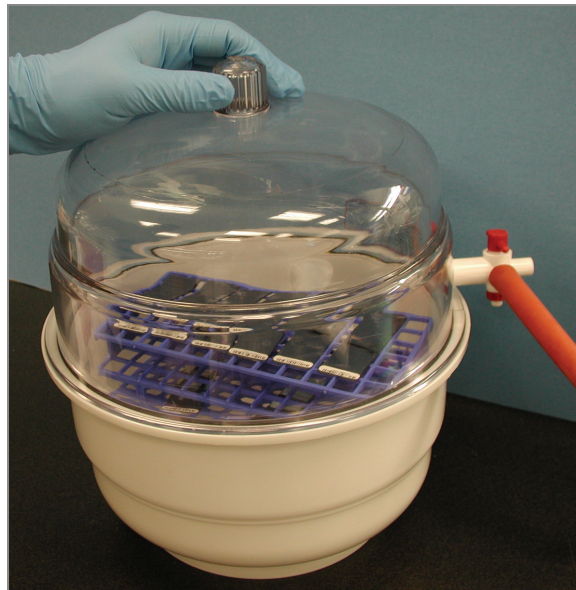

Figure 189 Testing Vacuum Seal
25. To ensure that the desiccator is properly sealed, gently lift the lid of the vacuum desiccator (Figures 189). It should not lift off the desiccator base.